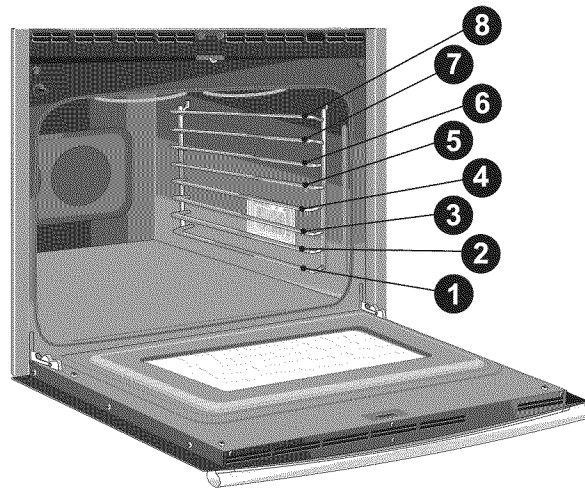

Fig. 2
- Use the recommended pans and oven rack positions for the type of meat being prepared -*Figs. 2 & 3*-. The glide rack should be used in the recommended position.
2. Arrange the interior oven rack to rack position recommendations - Figs. 2 & 3 -. Be sure to place the prepared food and pan directly under broil element. Close the oven door.